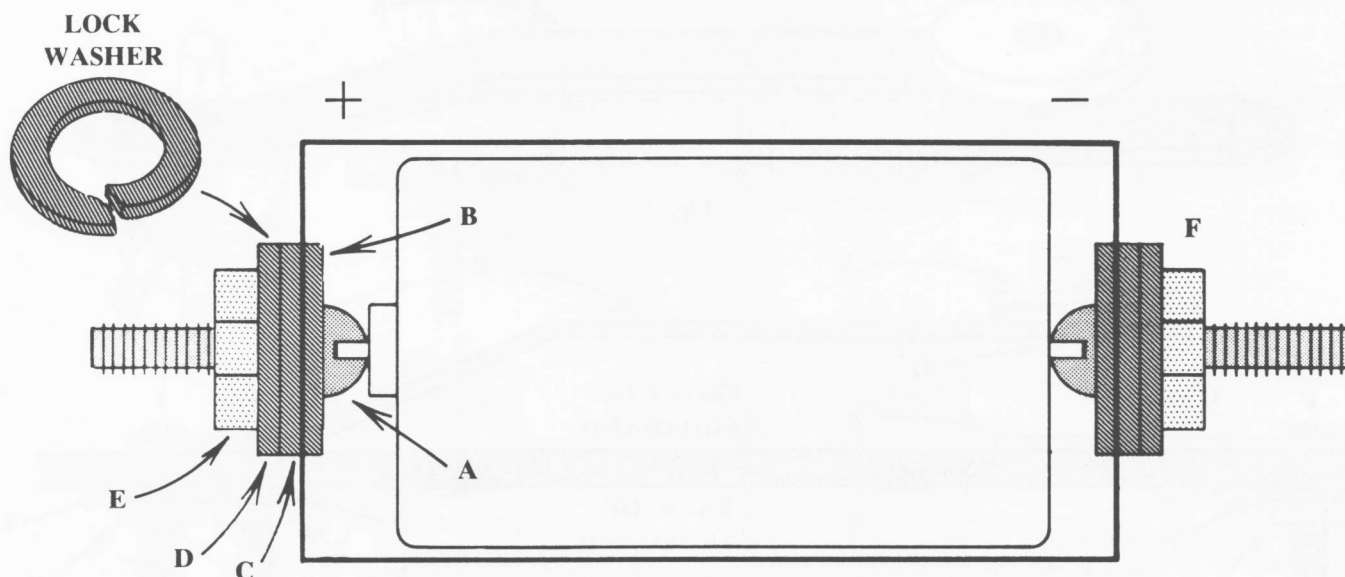

Fig. 3
Attach connecting bolts, washers, and nuts to these cell boxes as shown in Fig. 3.
Insert a #6 bolt (A in Figure 3) and flat washer (B) at one end of the box from the inside. On the bolt outside the box, add a regular washer (C), a lock washer (D), and nut (E). Tighten firmly with a wrench or pliers while using a screwdriver to keep the bolt from turning. Do the same at the other end of the box (F). Insert a flashlight cell into the box with the top and bottom of the cell in the exact position indicated by the drawing on the outside of the box. This position is important. If it is reversed, electrical connections will be incorrect and current may not flow. Check to see that the top and bottom